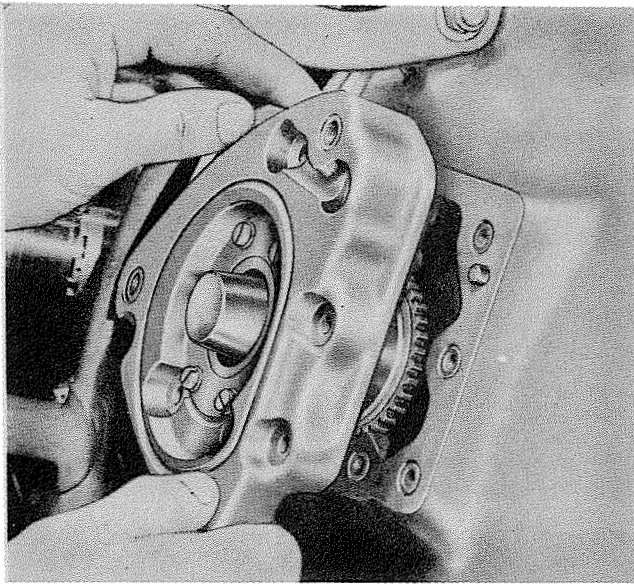

Figure 7-92. Installing Distributor Adapter
- Place a new gasket on the crankcase front section mounting pad. Insert plug 807053 in the distributor drive intermediate gear and install the distributor adapter. See figure 7-92. Secure the adapter with washers and attaching screws, tightened to 80 - 85 inch-pounds. Lock-wire the screws.